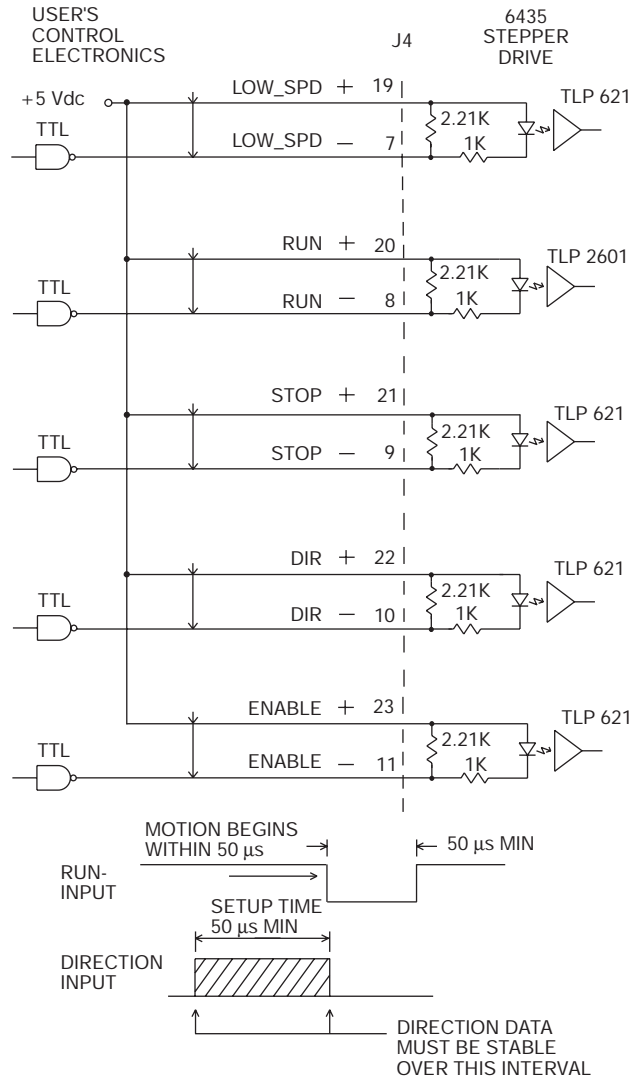

Figure 1 - 6435 Digital Interface Circuitry
2. Wire the control signals for the independent RUN, STOP and DIRECTION control into connector J4 as shown in Figure 1.